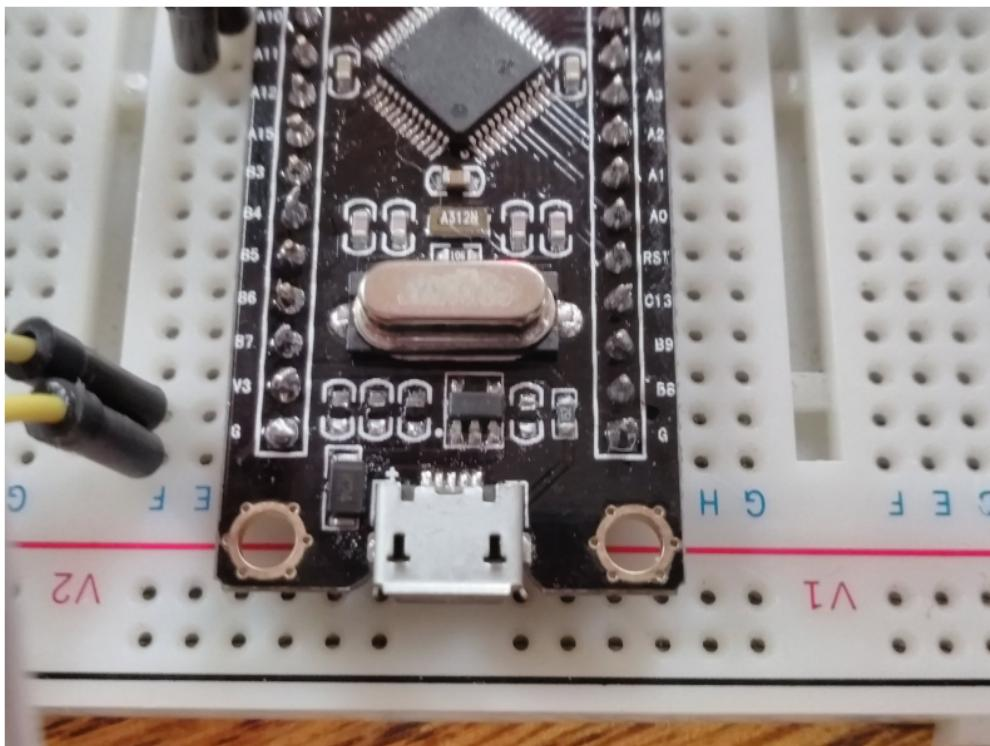

Figure 13.2: Powerline decoupling capacitors removed off a ‘blue-pill’ like dev board
- Remove the power decoupling capacitors - not all the caps need to come off, but the decoupling ones should be removed. See fig 13.2.